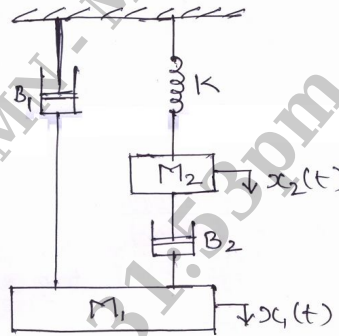

Fig. Q2 (b)
- Obtain the transfer function for the mechanical system shown in Fig. Q2 (b). (10 Marks)